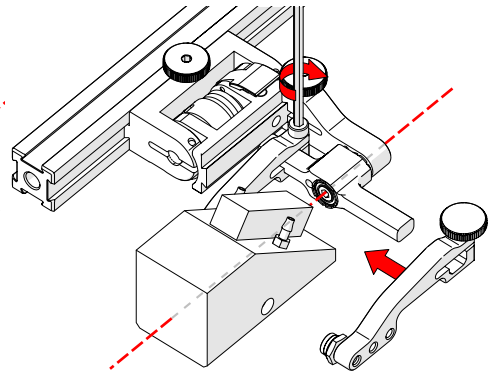

Fig. 119 - Place wedge
7. Position the wedge on the inner probe holder arm (Fig. 119).